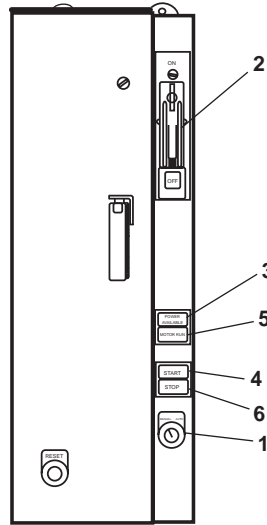

Figure 3. Fire Pump Motor Controllers
- (1) Set the LOCAL-REMOTE switch (figure 3, item 1) for each controller to the LOCAL position.
- (2) Set the ON-OFF switch (figure 3, item 2) for each controller to ON.
- (3) Verify that the POWER AVAILABLE light (figure 3, item 3) for each controller illuminates.